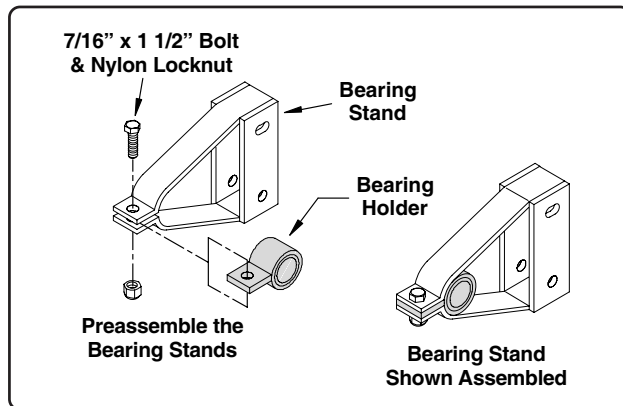

Fig. 11
1. Position the bearing holder to the inside of the bearing stand as shown in Fig. 11. Secure using one 7/16" x 1 1/2" bolt and nylon locknut.